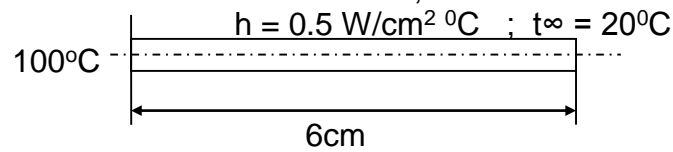

Fig. 3
- 12 Determine the temperature distribution and rate of heat transfer in a straight fin of circular cross section shown in Figure 3. Use two elements and consider the tip of fin to be insulated. Diameter of rod = 1cm, $K = 5 \text{ W/cm}^\circ\text{C}$.